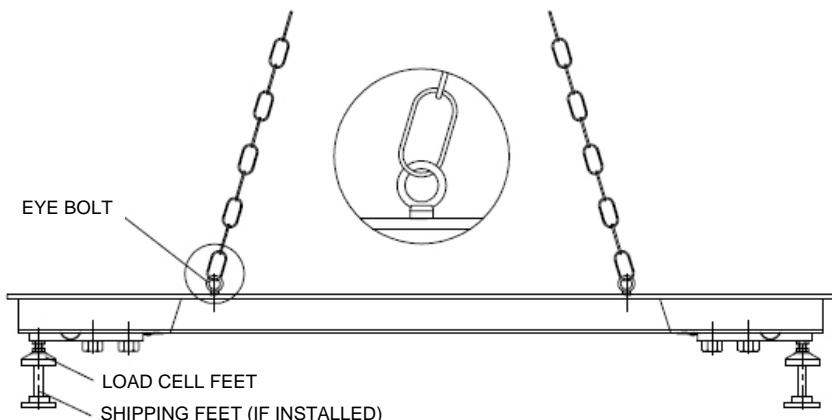

Figure 1. Hoisting Method.
2. Install the two included eye bolts into holes in top of platform. (See *Figure 1*.)